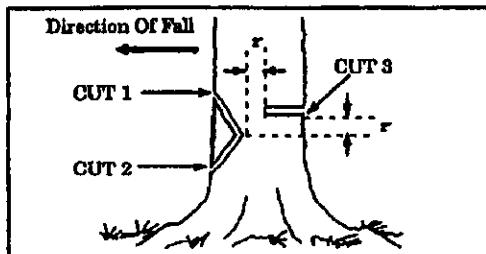

Figure 20
**NOTE:** If the tree has large buttress roots, remove them before making the notch. Cut into the buttresses vertically, then horizontally. Figure 20.
- a. Make the notch cut. Refer to Figure 20.